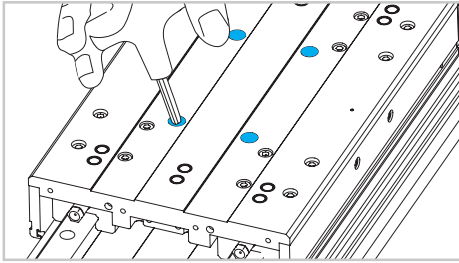

Fig. 7
- 8) Untighten and remove the 4 screws holding the inner part of the carriage (Fig. 7)